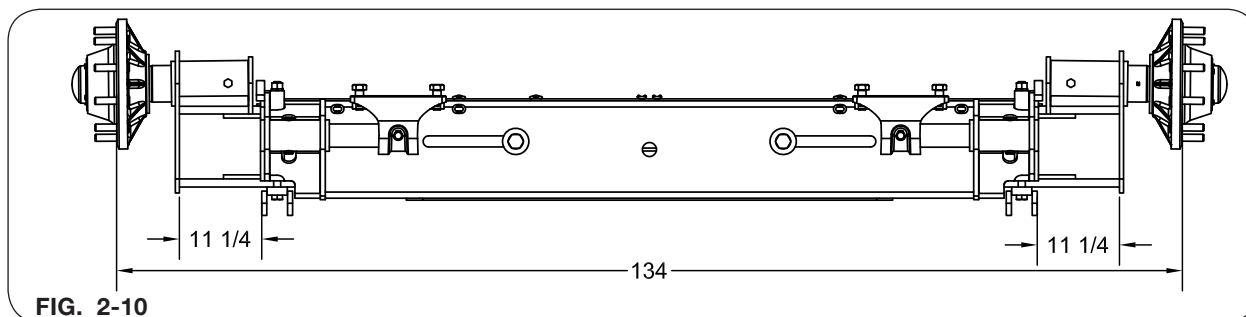

FIG. 2-10
- Slide extensions to desired tire gauge spacing. Axle extensions should be extended equally. Refer to chart below and FIG. 2-10.